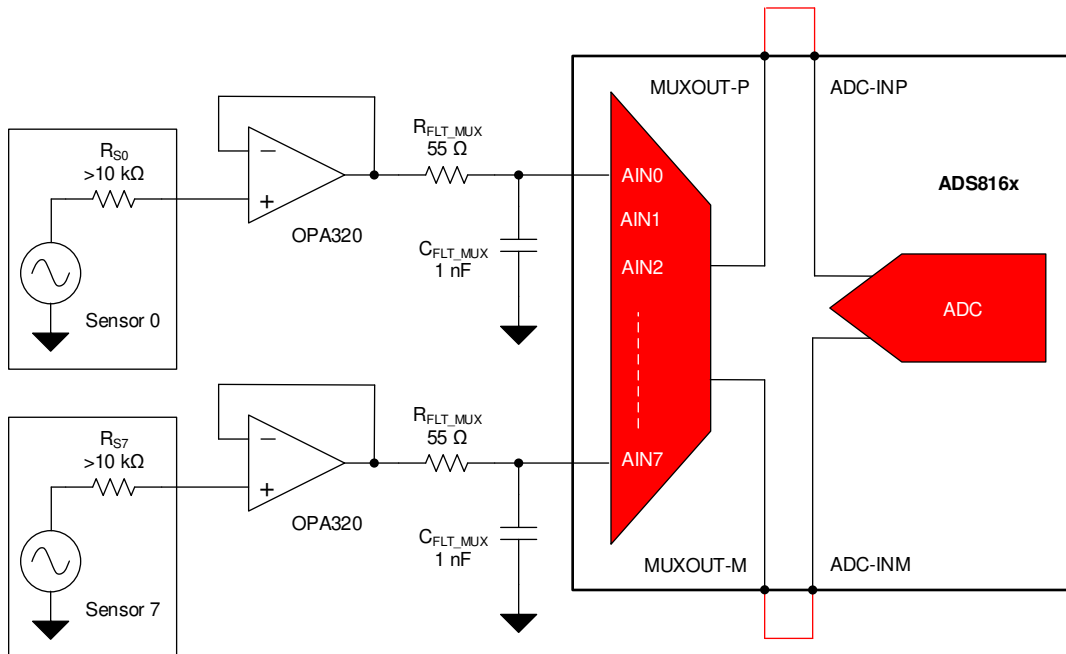

图 100. High Output Impedance Sensor Interface
In some applications, such as temperature sensing, the sensor output impedance can be greater than 10 kΩ. When scanning the multiplexer channels at high throughput, the relatively higher driving impedance results in a settling error. In such cases, 图 100 shows that the multiplexer inputs can be driven using an amplifier. The multiplexer outputs can be connected to the ADC inputs directly. For best distortion performance, an amplifier can be used between the multiplexer and the ADC as described in the Selecting an ADC Input Buffer section.
- Select an input amplifier for rapid settling when the multiplexer switches channels. This selection is covered in the *Multiplexer Input Connection* section. The *OPA320* buffer and associated RC filter illustrated in 图 100 meet these requirements.